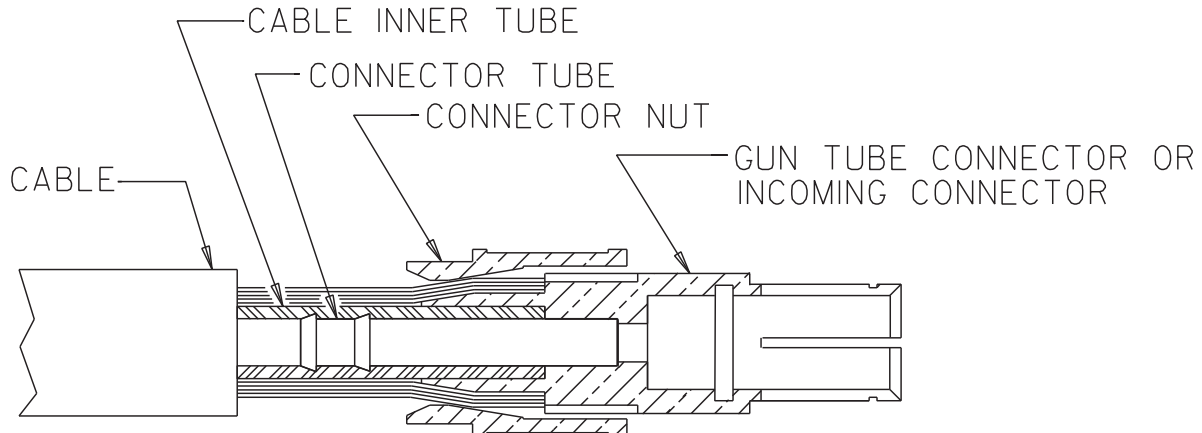

Figure E.3
connector shoulder. Keeping the copper strands against the shoulder, pull the connector nut over the copper strands, engage the gun tube connector threads, and tighten in place. (See Figure E.3).
- f) Check that the cable boot, cable handle and strain relief are on the cable. Slip the connector nut over the copper strands with the threaded end out. Assemble incoming connector to cable by forcing the steel tube of the connector into the inside diameter of the cable inner tube until the copper strands are butted against the incoming connector shoulder. Keeping the copper strands against the shoulder, pull the connector nut over the copper strands, engage the incoming connector threads, and tighten in place. (See Figure E.3).